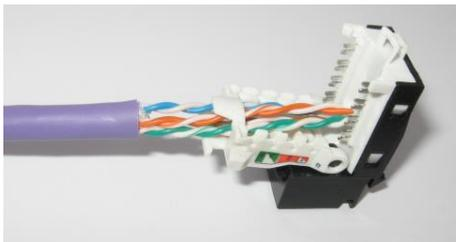

Fig.4
3.4) Insert cable into termination cap. (Fig. 4)